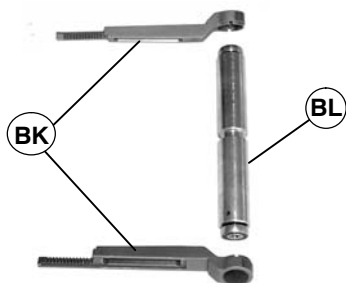

Figure 34
6. Remove two head plates (BK of Figure 34) from spindle and bearing assembly (BL).